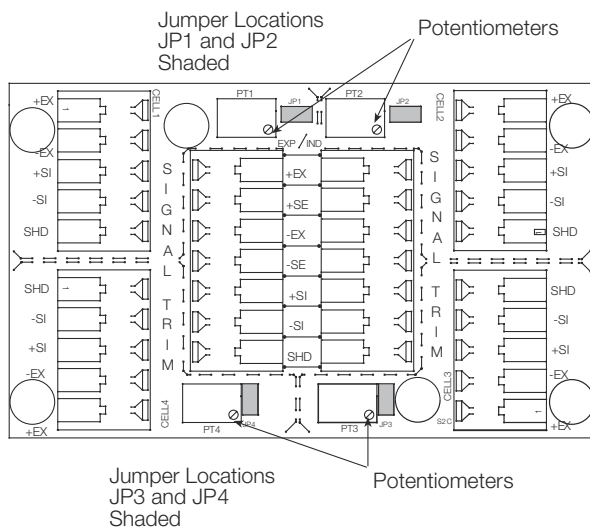

Figure 3-5. Trim Potentiometers
Before the scale can be calibrated, all load cells must be balanced and responding to loading equally by adjusting the balance trimmers. The balance trimmers are located on the junction box (see Figure 3-5). Use the following procedure to balance the load cells.
- With no weight on the scale, zero the indicator. Then turn all four potentiometers (shaded areas of Figure 3-5) to increase the reading until a clicking sound is heard from each potentiometer. This ensures the maximum signal from each load cell.